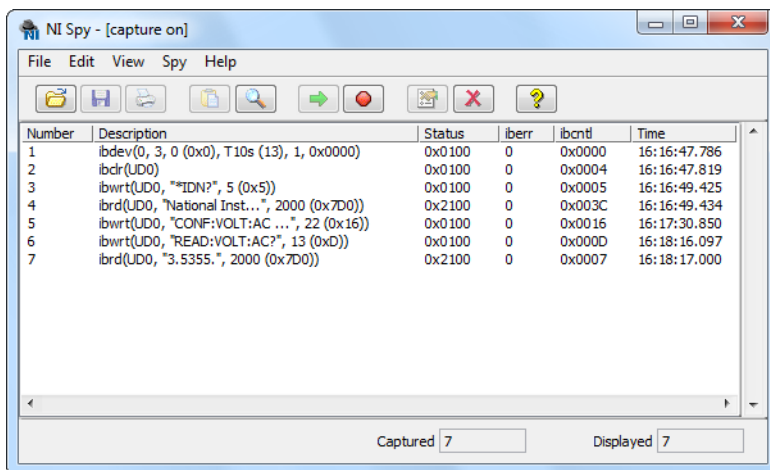

Figure 6-1. NI-488.2 Calls Recorded by NI I/O Trace, Shown on Windows
2. Start the NI-488.2 application you want to monitor. NI I/O Trace records and displays all NI-488.2 calls, as shown in Figure 6-1.